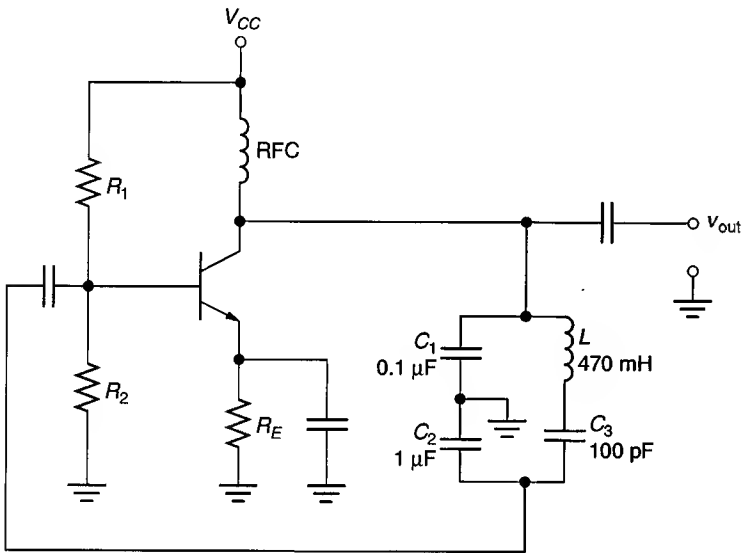

FIGURE 18.28
10. For the circuit shown in Figure 18.28, calculate the operating frequency, the value of α_v , and the value of A_v .
11. A circuit like the one shown in Figure 18.28 has values of $C_1 = 0.1 \mu\text{F}$, $C_2 = 1 \mu\text{F}$, $C_3 = 100 \text{ pF}$, and $L = 3.3 \text{ mH}$. Calculate the operating frequency, the value of α_v , and the value of A_v for the circuit.